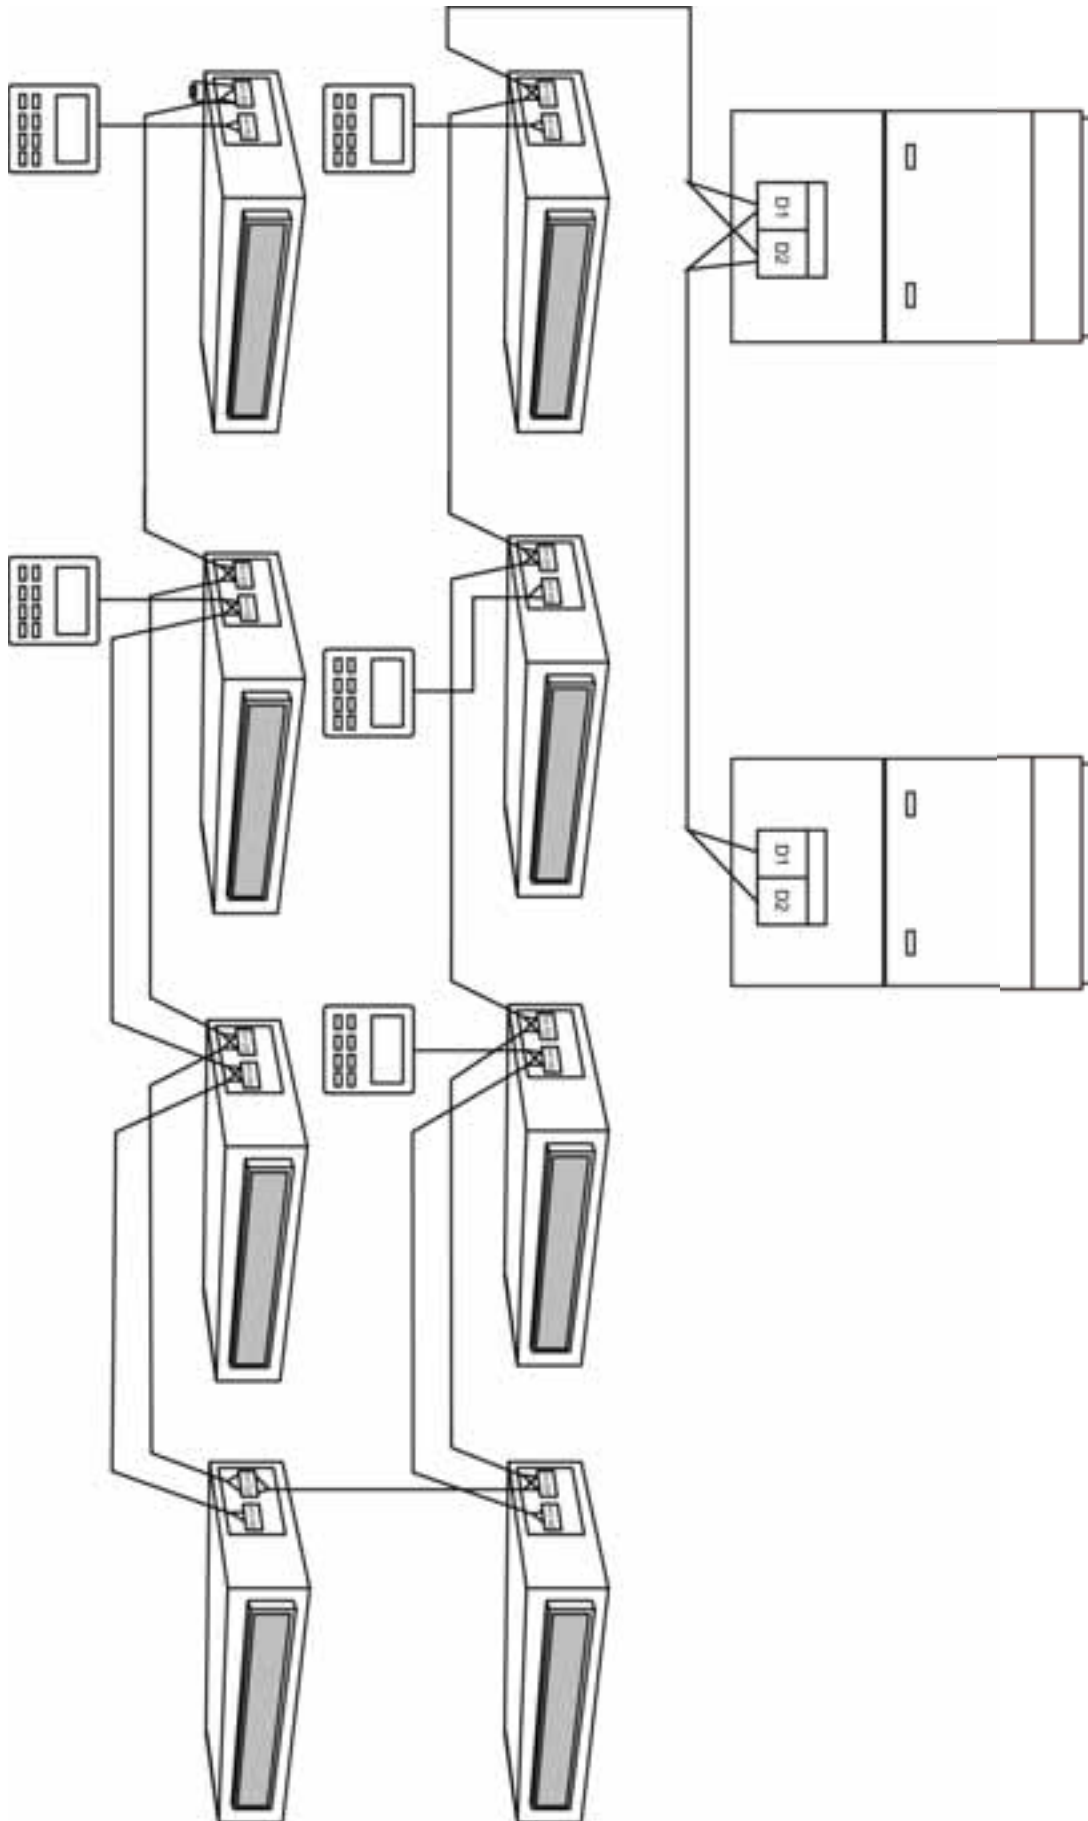

Fig 5.5
- (1) Communication wire of indoor unit to outdoor unit (or indoor unit) is connected to D1, D2.
- (2) Wired controller is connected to H1, H2.
- (3) One indoor unit can connect two wired controllers. One must be set as master and one as slave.
- (4) One wired controller can control 16 indoor units maximum at the same time (as shown in Fig. 5.5)